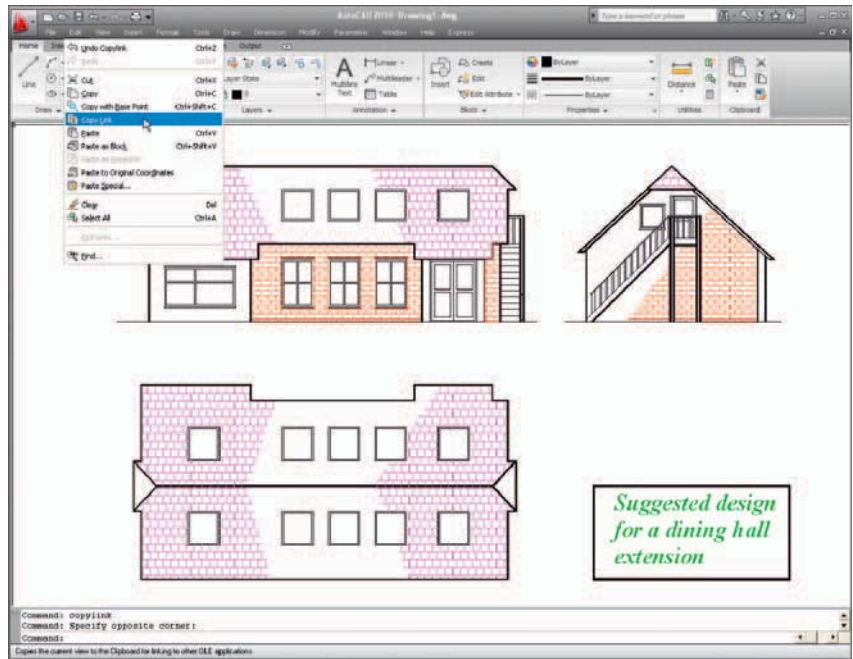

Fig. 10.1 A drawing in the AutoCAD 2009 window showing **Copy Link** selected from the **Edit** drop-down menu
1. Open any drawing in the AutoCAD 2010 window (Fig. 10.1).